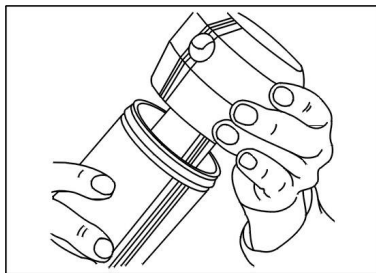

Figure 1. Bowl Removal
2. Unscrew and remove the Bowl. See figure 1.